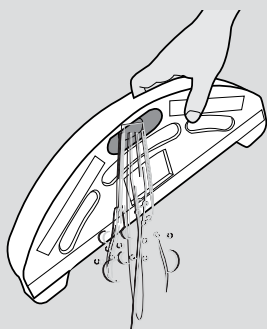

Fig. 16
4. After mopping, remove the water tank and the mop. Open the rubber cap and pour remaining water out of the tank. [Fig. 16]